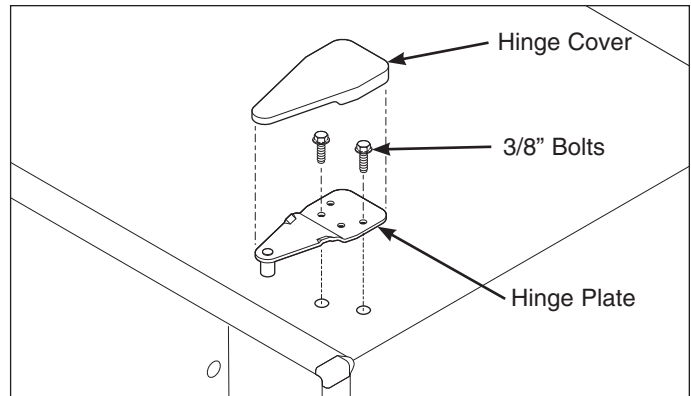

Figure 2-29. Top Hinge Removal
4. Lift plastic cover off upper hinge assembly. (See Figure 2-29)